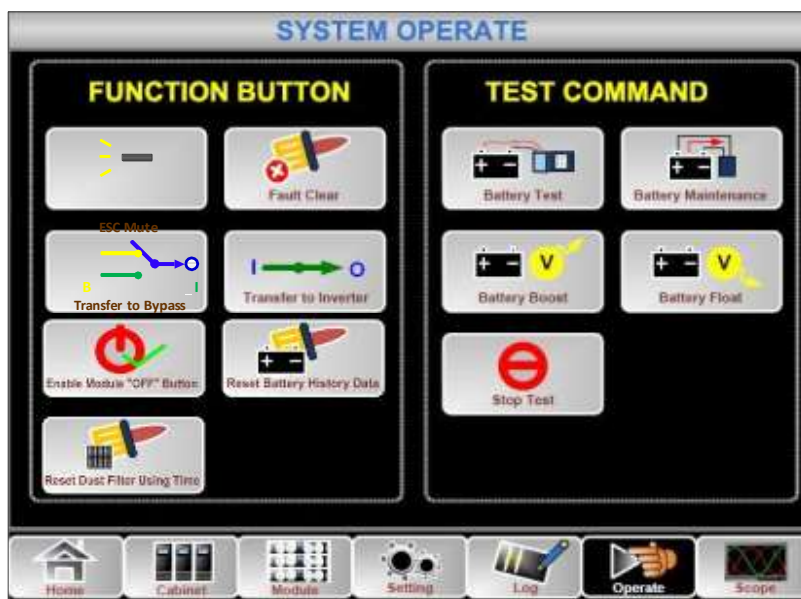

Figure4-3 Battery maintenance
- 1) Manual Discharging test. Enter the menu Operate, as is shown in Figure4-3 and touch the icon “Battery maintenance”  , the system transfers into the Battery mode for discharging. The system will stop discharging when the battery will have 20% of capacity or in low voltage. Users can stop the discharging by touching the “Stop Test” icon .